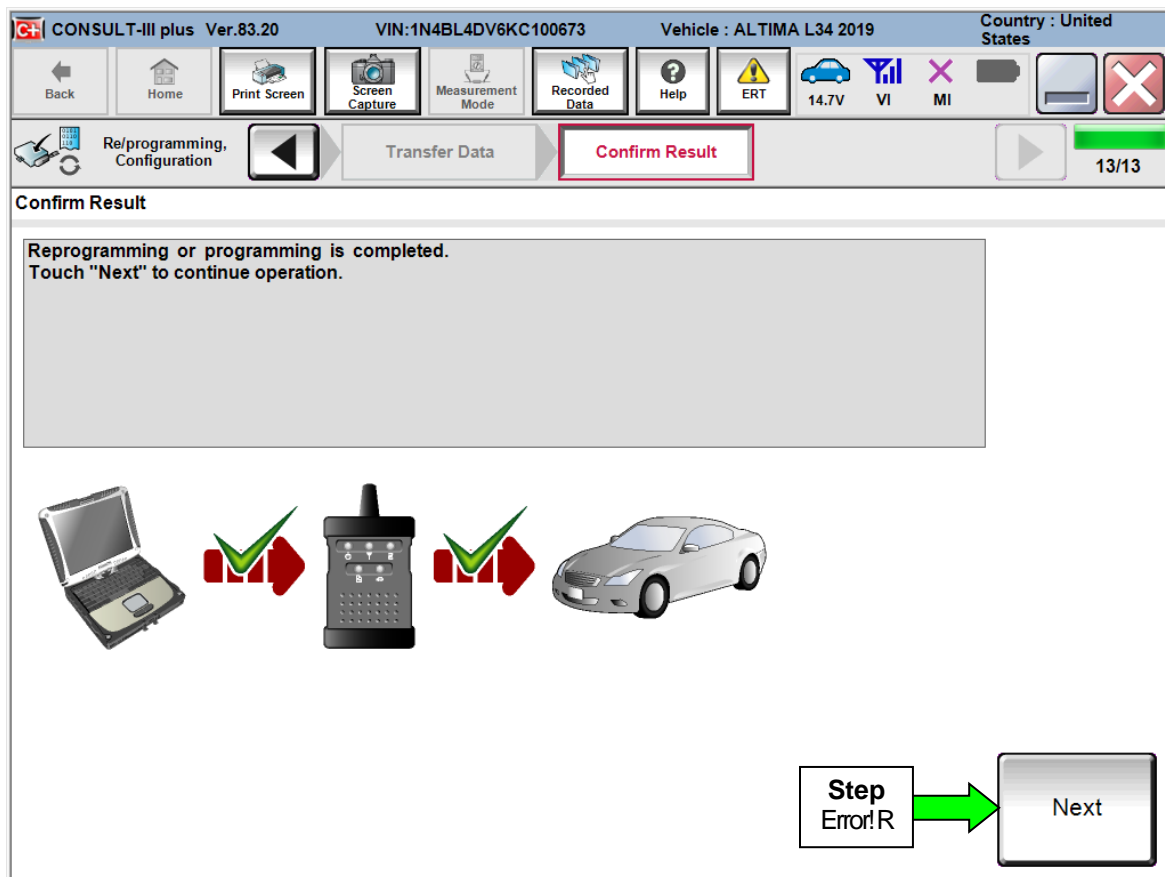

Figure 14
25. When the screen in Figure 14 displays, reprogramming is complete.
**NOTE:** If the screen in Figure 14 does not display (reprogramming does not complete), refer to the information on page 12.